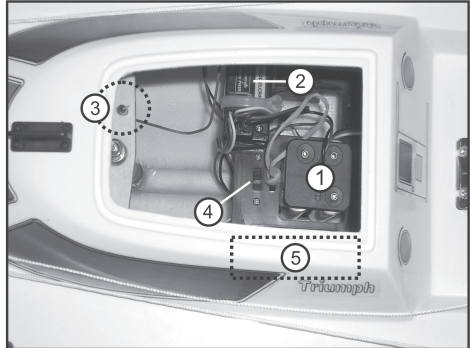

Figure 4
Figure 4, item 2 shows a possible installation site for the remote control receiver. The receiver can be attached with double-sided adhesive tape (servo tape) or a cable tie.